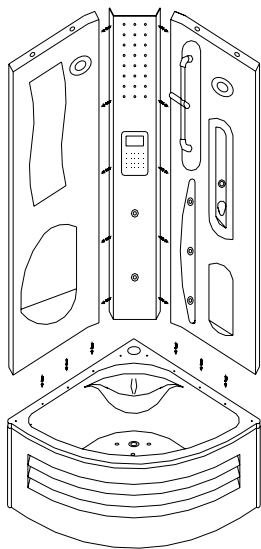

Fig.3
- 3) Install the left and the right wall. Put the left and the right wall stand-up to the level land, connect the left and right wall through the corresponding holes in each of them to the middle light pillar with bolts, and make up the wall assembly. Put the wall assembly on the bathtub, join them with bolts at the corresponding holes. Notice: Install the gaskets and the nuts, but don't tighten them. As fig.3